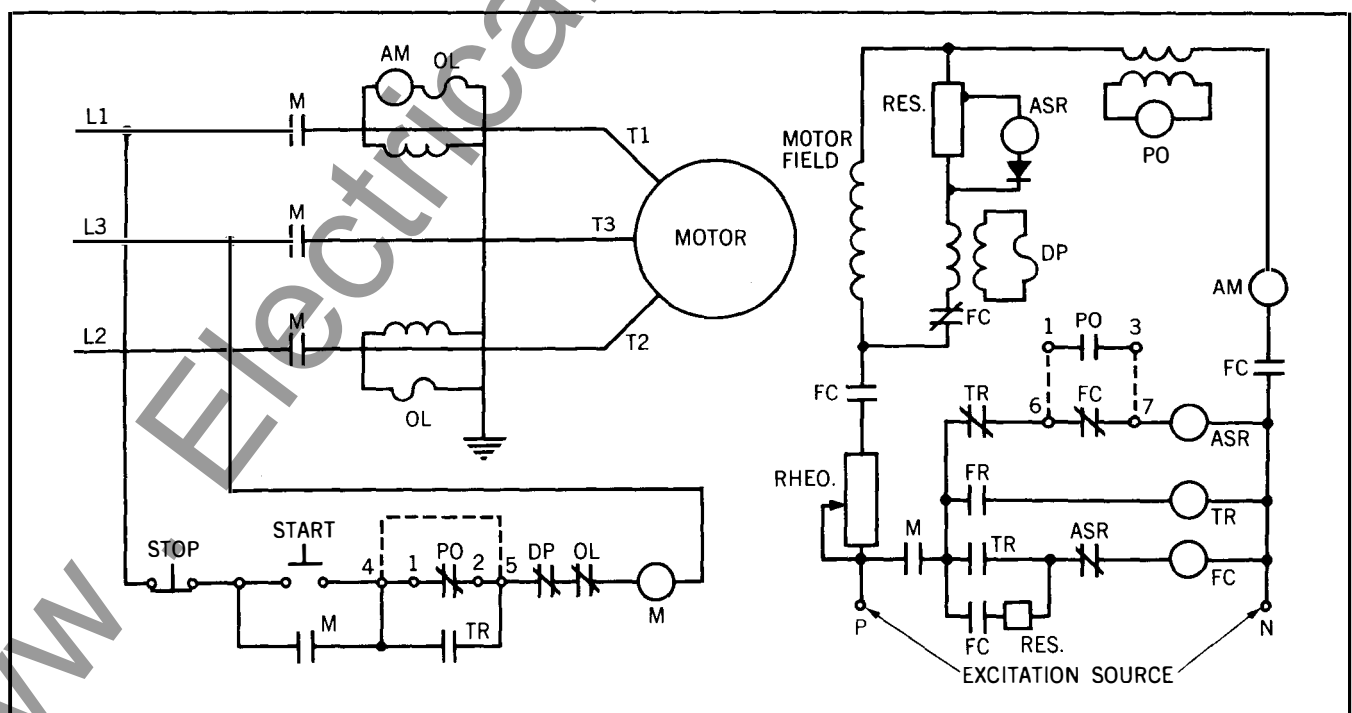

Fig. 2 Typical Diagram
relay are arranged to accomplish either of two functions (1) stop the motor by opening the line contactor (Jumpers 4-1 and 2-5 connected) or (2) remove excitation by opening the field contactor and initiate the resynchronizing action, as for a normal start (Jumpers 4-5, 1-6, 3-7 connected), See Fig. 2. The fast action of the relay is of special importance for resynchronizing the motor under load, since the faster excitation is removed, the less the loss of speed, and the more rapidly the motor can again pull in. Transient load and voltage variations may cause an AC current component in the DC field circuit, which may cause operation of the pull-out relay should the relay be set for high sensitivity. The sensitivity of the relay may be reduced by increasing the armature spring pressure by means of the thumb screw provided. This relay cannot be adjusted to an inoperative position by means of this spring, for with maximum obtainable spring pressure the relay will still operate at approximately 6 percent slip on 60-Hertz machines and 12 percent slip on 25-Hertz machines. The fast action of the relay is purposely delayed during the period the motor is pulling into step, so that the transient disturbances incident to synchronization do not cause premature operation of the pull-out relay. This time delay is provided by the "inductive time delay on opening" of the auxiliary sequence relay.